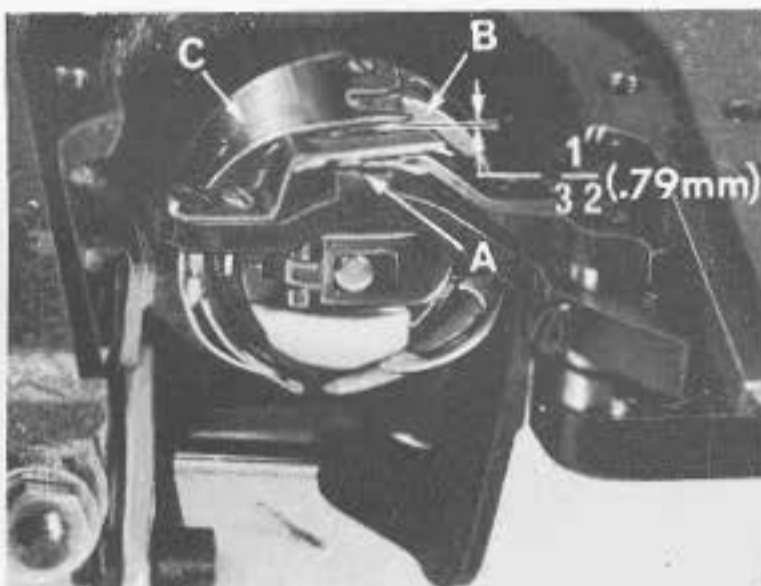

Fig. 12A
3. Assemble positioning finger and knife assembly into machine. Adjust the bobbin case holder positioning finger and knife assembly by turning the bobbin case holder until the finger recess is at the top. Place the projection (A, Fig. 12A) on the positioning finger into the bobbin case holder recess (B) and tighten the finger and knife assembly attaching screws securely, allowing  $1/32$  inch (.79 mm) clearance between the outside edge of projection and the inside edge of bobbin case recess (Fig. 12A).